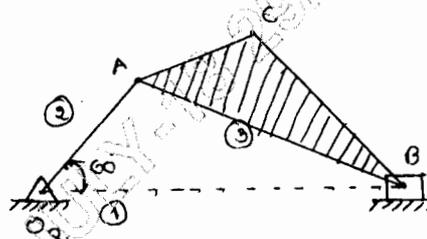

Fig Q3
- 3 In the mechanism shown in Fig Q3 crank rotates at 3000 rpm. Find the acceleration of the point 'C' in magnitude direction and sense. Find also the angular acceleration of link 3. (16 Marks)